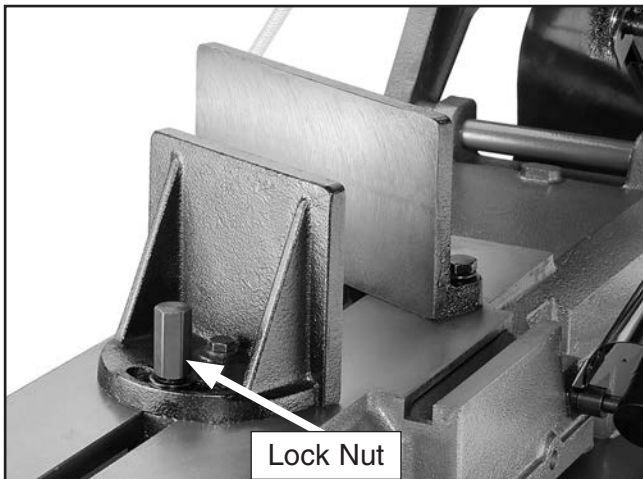

Figure 14. Vise jaw lock-nut.
4. Loosen the lock nut in **Figure 14** on the opposite jaw so the jaw can float, and match the angle of the workpiece.